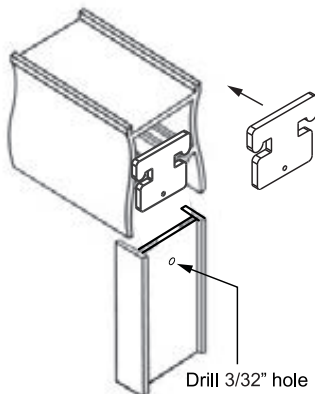

Figure 4
- C. Place the Header (#1) onto the top ends of the Wall Jambs. Once the Header is in place, place a Header T-strap Retainer (#25) into the Header as shown in Figure 4.
- D. Place the Header (#1) onto the top ends of the Wall Jambs. Once the Header is in place, place a Header T-strap Retainer (#25) into the Header as shown in Figure 4.